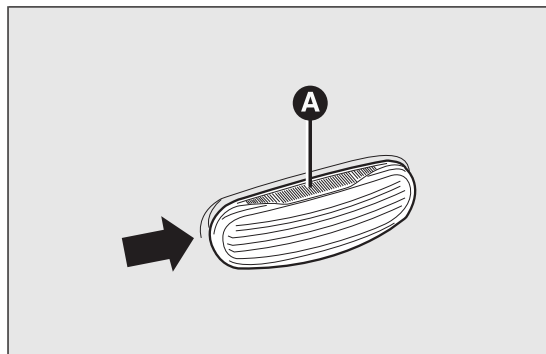
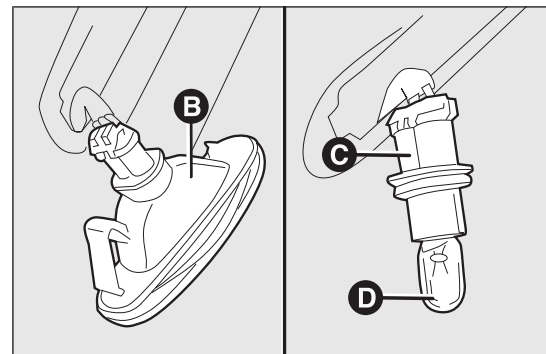

fig. 149
fig. 150
- ❑ operate the lens A fig. 149 to press in the internal catch B fig. 150, then pull the unit outwards;